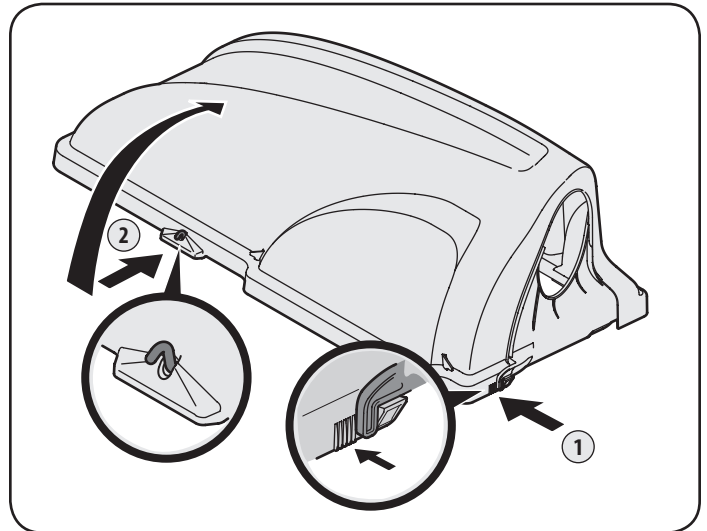

Figure 13
7. Open Hood by pushing in on the rear, right-side tab with your right hand, as shown in 1 of Figure 13, and lifting the cover with your left hand in the center rear of the bagger cover, 2.